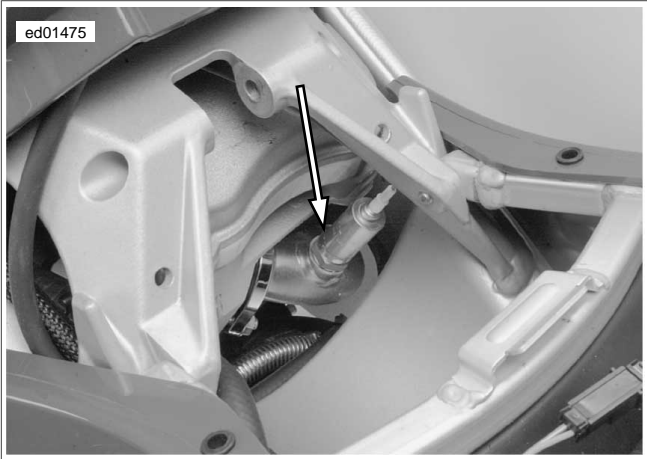

Figure 2-53. Oxygen Sensor (shock absorber removed)
- **Loose Oxygen Sensor:** See Figure 2-53. If the oxygen sensor is loose engine performance may be affected. This could also show up as a slow changing oxygen sensor voltage.